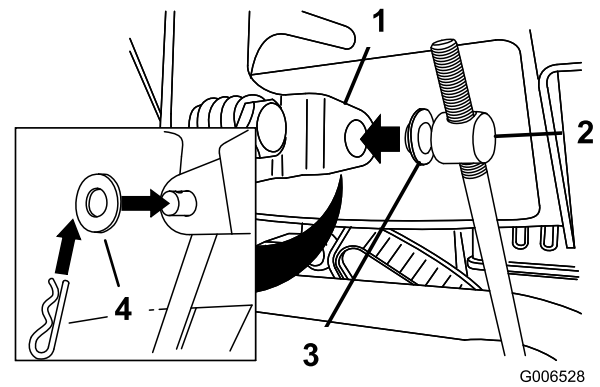

Figure 6
3. Remove the hairpin cotter and the outer washer from the trunnion on the upper end of the speed control rod (Figure 6).
Note: To make installation easier, leave the inner washer on the trunnion (Figure 6).
6. Lift up on the speed control rod and insert the trunnion into the hole in the speed selector lever (Figure 6).
- B. Disconnect the trunnion from the speed selector lever (Figure 6).
- C. Turn the trunnion downward (clockwise) on the speed control rod (Figure 6).
- D. Connect the trunnion from the speed selector lever (Figure 6).
- C. Turn the trunnion upward (counterclockwise) on the speed control rod (Figure 6).